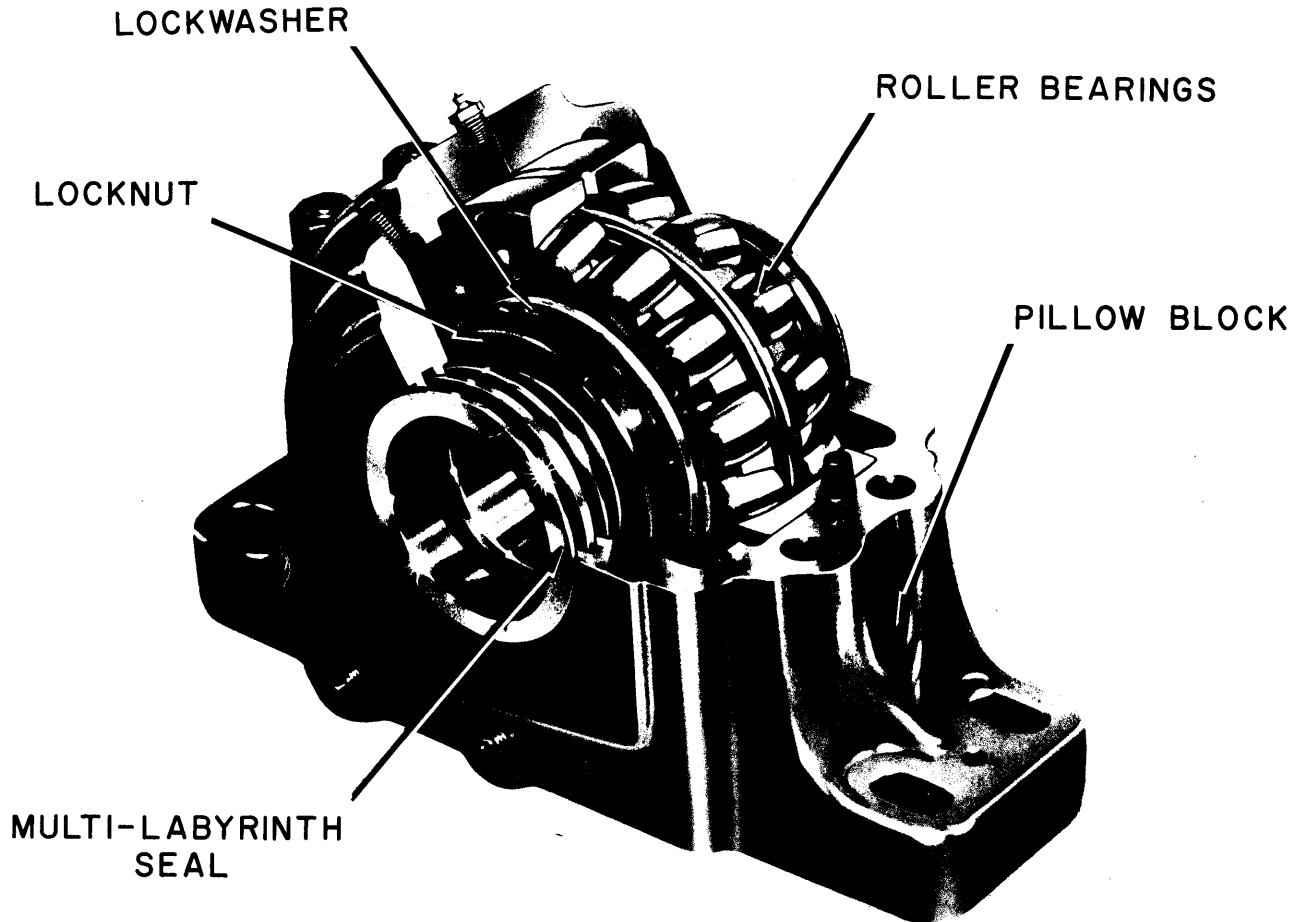

Figure 1-3. Roller Bearing Pillow Block, Cutaway View
(2) Inertia Flywheel. - The forged-steel inertia flywheel is dynamically and electrostatically balanced. Two oversized roller bearing pillow blocks provide support for the flywheel. See figure 1-3. The bearings are designed for 300,000 hours of operation. A bearing sensing circuit provides early warning of any overheating of the bearings.